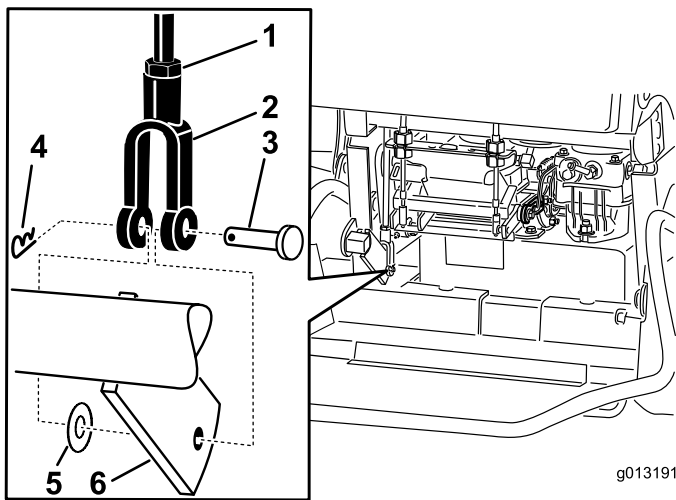

Figure 62
5. To adjust the brake, remove the hair pin cotter and clevis pin from the lower brake lever and yoke (Figure 62).
6. Loosen the jam nut (Figure 62).
7. Rotate the yoke. To tighten the brake, rotate the yoke up. To loosen the brake, rotate the yoke down (Figure 62).
8. Secure the yoke to lower brake lever with the hair pin cotter pin and clevis pin (Figure 62).
9. Tighten the jam nut (Figure 62).